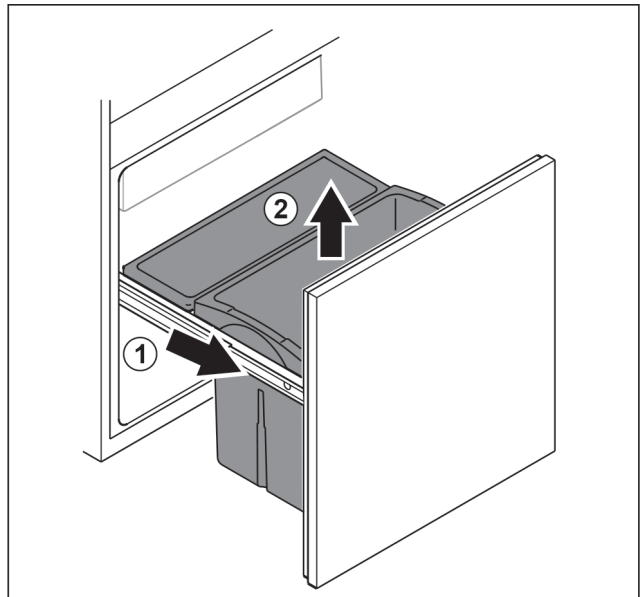

Fig. 97
- ▶ Remove the pull-out unit as far as it will go. Fig. 97 (1)
- ▶ Remove drawer upwards. Fig. 97 (2)